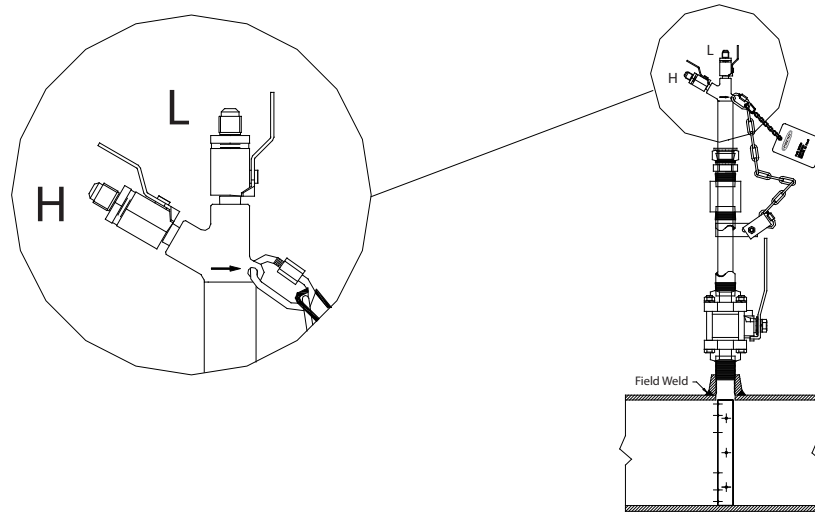

Figure 4: Sensor alignment
11. While holding the BHR Ellipse in its fully inserted position, align the arrow on the sensor head with the direction of flow. See Figure 4 on page 6.